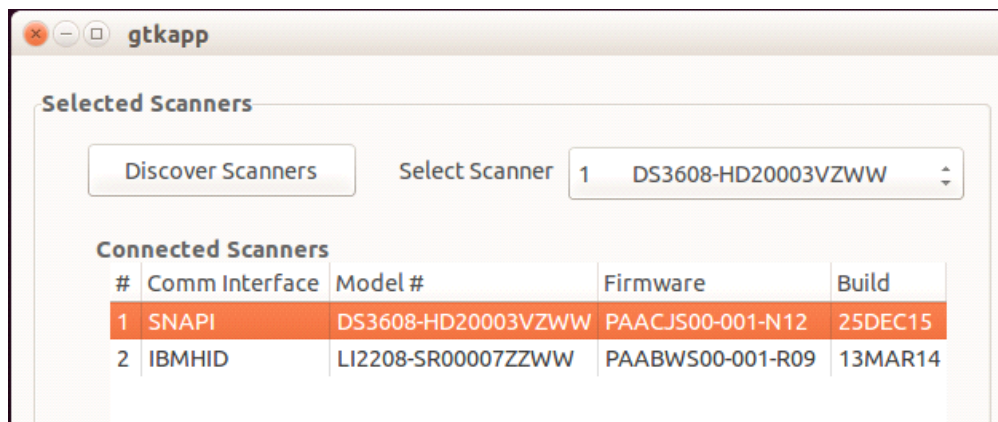

Figure 4-5 Scanner Selection
2. Select a SNAPi or IBM mode scanner ID from the *Select Scanner* drop-down list. The selection appears in the *Connected Scanners* list. See Figure 4-5 on page 4-11.